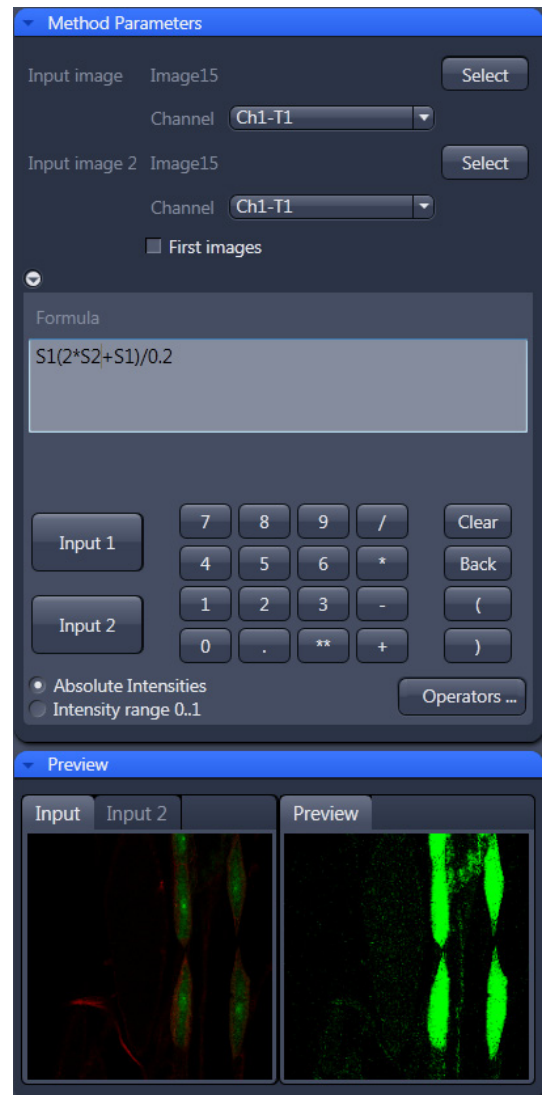

Fig. 401 Image calculation window
- Then type/edit an operator as shown in Fig. 401 that enhances the relative changes in the image with respect to the relatively bright signal level, for example: